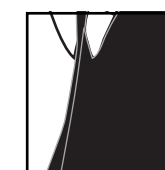

Fig. 1
1. Touch the edges of the pressure sensor mat until you feel a hard piece of plastic, this is the small transmitter that is inside. Open the opening that is kept shut by a piece of double sided Velcro and get the transmitter out. (Fig1)